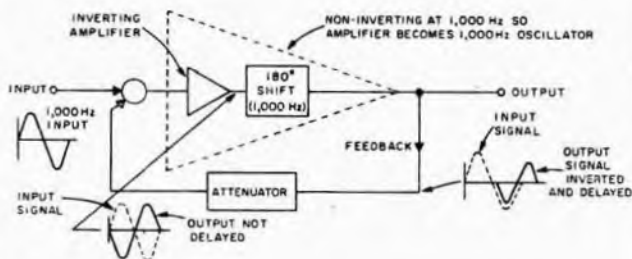

Fig. 7. Since the 180-degree phase shift is frequency selective, this non-inverting amplifier will oscillate at 1000 Hertz.
Therefore, if we build a feedback amplifier which contains the normal inverting amplifier but also (inadvertently) contains a  $180^\circ$  phase-shift network, the resultant circuit will oscillate at the particular frequency, (1,000 Hz in the figure) for which the phase-shifter provides  $180^\circ$  phase shift. See Fig. 7.
**More Trouble.** This is not the only way an amplifier can get into trouble. There are other types of phase-shifters that can creep into amplifiers, unrecognized, and drive the unwary experimenter up the nearest wall. This circuit (shown in Fig. 11A) can also produce a phase-shift of 60° at 1,000 Hz. Three of them, can produce the 180° phase-shift required for oscillation. See Fig. 11B. This particular network can invade amplifiers in an even more insidious fashion. The "masquerading" part of the circuit is shown heavy in Fig 11C. The dotted capacitor doesn't appear physically in the circuit, because it is the so-called "stray capacity" associated with wires, sockets, terminals, etc. Three of these circuits hiding in an amplifier, can produce an unwanted oscillation. See Fig. 12. Since the stray capacities are so small, this "oscillator" will oscillate at a very high frequency; often so high that it is undetected as an oscillation. However, such oscillation can make an amplifier behave erratically; sometimes distorting, sometimes not; sometimes overheating, sometimes not. Fig. 7 and Fig. 12 have a lot in common.